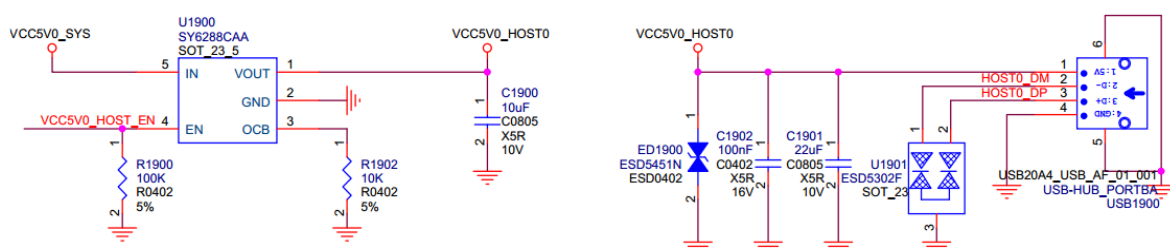

Figure 2-2 USB 2.0 Host VBUS control circuit and interface circuit
- The control circuit and interface circuit of USB 2.0 Host VBUS are shown in Figure 2-2 and Figure 2-3